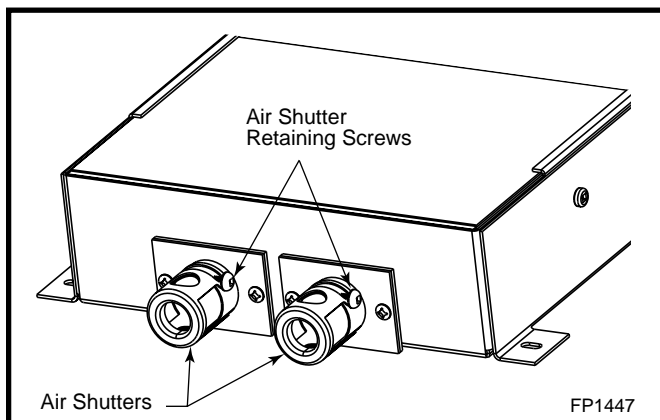

Fig. 46 Air shutter adjustment.
7. Remove the screws holding the air shutter to the burner tubes. (Fig. 46) Note the alignment of the air shutter on the tubes. Remove the air caps and replace them with the new air shutters supplied in the conversion kit.
Typically, the top 3/8 – 1/2" (10 – 13 mm) of the thermopile should be engulfed in the pilot flame. (Page 26, Fig. 46)